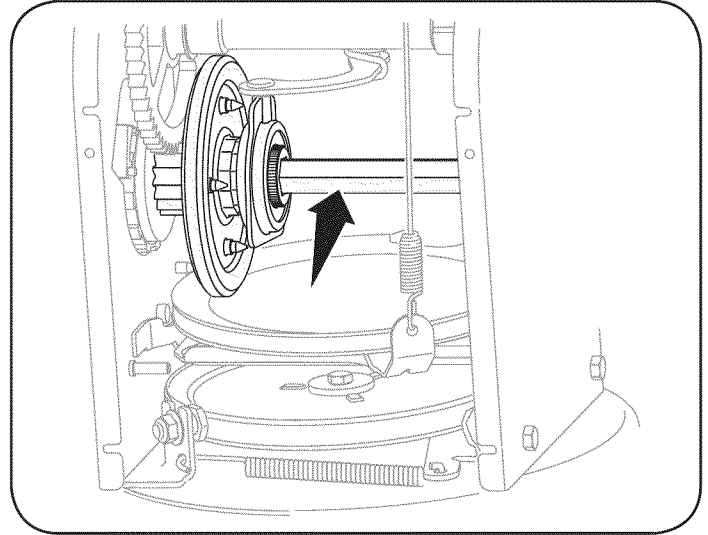

Figure 23
4. Apply a light coating of engine oil (or 3-in-1 oil) to the hex shaft. See Figure 23.